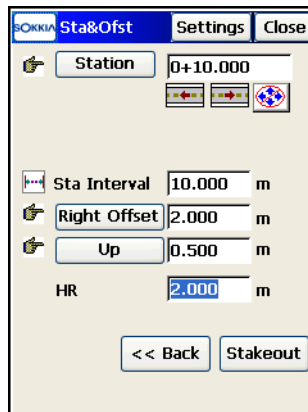

Figure 9-22. Station & Offsets
3. In the *Sta&Ofst* (Station & Offsets) screen, set the station along the line being staked, the station staking interval, the right or left offset of the stakeout point with respect to the line, the *Up* or *Down Height* offset, the *height* and the *type* of the antenna height (GPS mode), or the height of the rod (target) (TS mode). If the number of subdivisions has been selected, the station interval is automatically computed and cannot be changed (Figure 9-22).